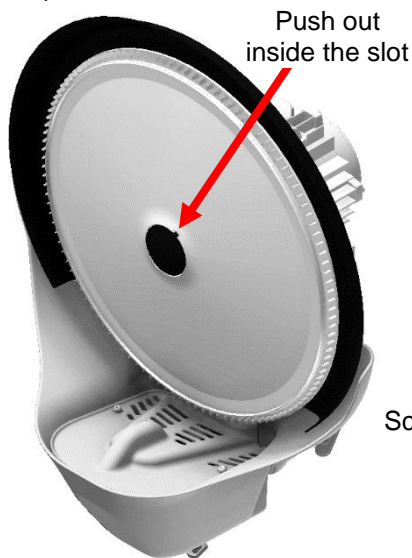

Fig. 4.4.1
- Remove the central cap of the rotating disc by pushing it out with a small slotted screwdriver (Fig. 4.4.1).